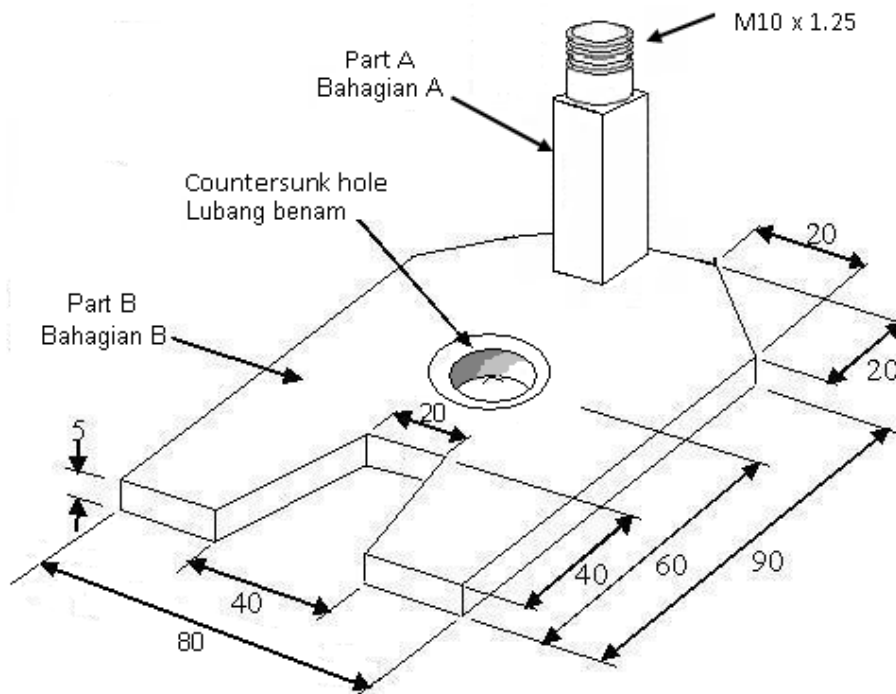

Figure 1
1. Figure 1 shows two mild steel components, Part A measuring 12 mm x 12 mm x 100 mm and Part B measuring 60 mm x 60 mm x 10 mm.